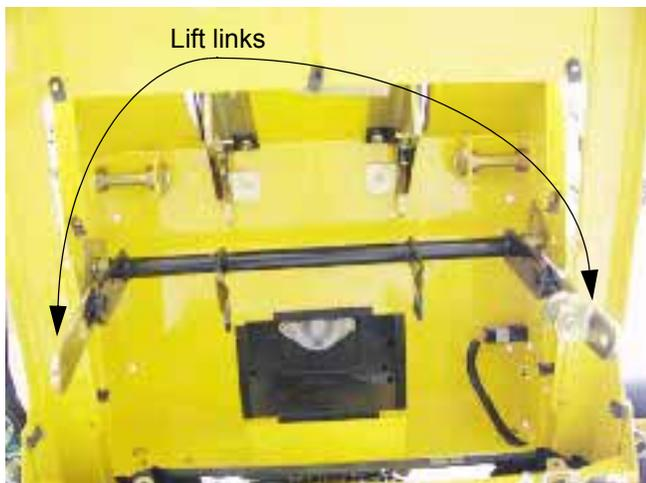

Figure 11.26
11.26. Note the orientation of the lift links, and pivot them to remove them from the arms on the lift shaft assembly. The slotted hole goes up. The adjustment nuts on the right side link face the inside of the machine. See Figure 11.26.